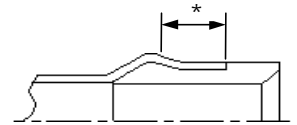

Figure 45. Portion to be heated
- Remove the tube from the sleeve holder and, using a heat gun, heat the portion marked with an asterisk (*) in Figure 45, in order to ensure close contact of the tube with the sleeve.